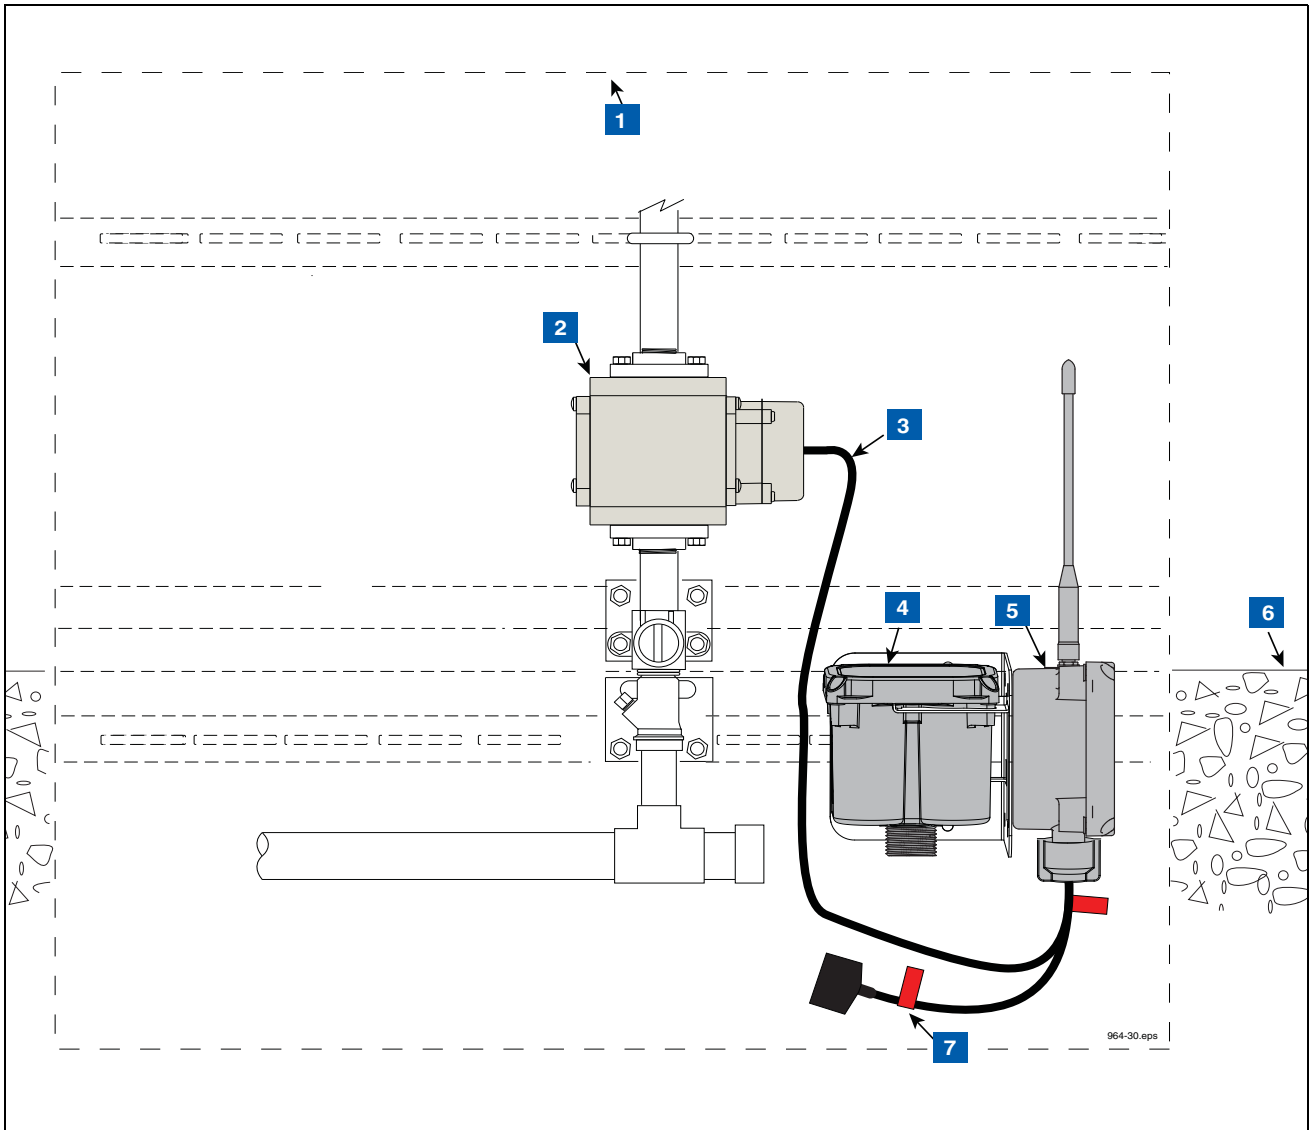

Figure 25. Example VFM Transmitter Installation In Dispenser
4. Determine a support location within the dispenser cabinet that will allow you room for the transmitter/battery support bracket. Clamp the bracket to an available support structure (see Figure 25).
5. Determine a support location within the dispenser cabinet that will allow you room for the transmitter/battery support bracket. Clamp the bracket to an available support structure (see Figure 25).
**LEGEND FOR NUMBERED BOXES IN Figure 25**